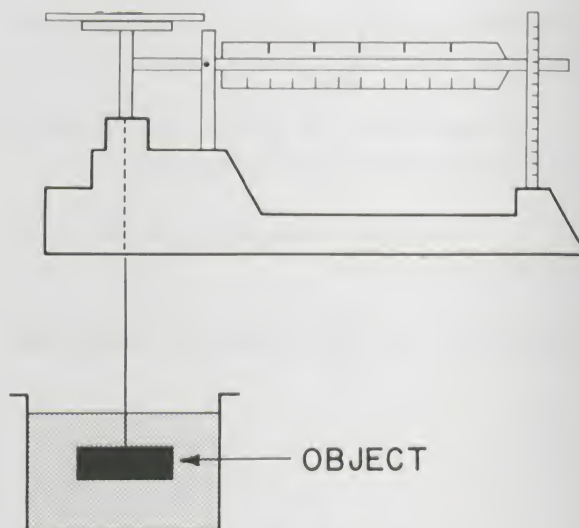

Figure 19.
2. Now suspend the object from the balance arm so that it is submerged in a beaker of water, as in Figure 19. Be careful that it doesn't touch the sides. Record the apparent mass in water, M_W .